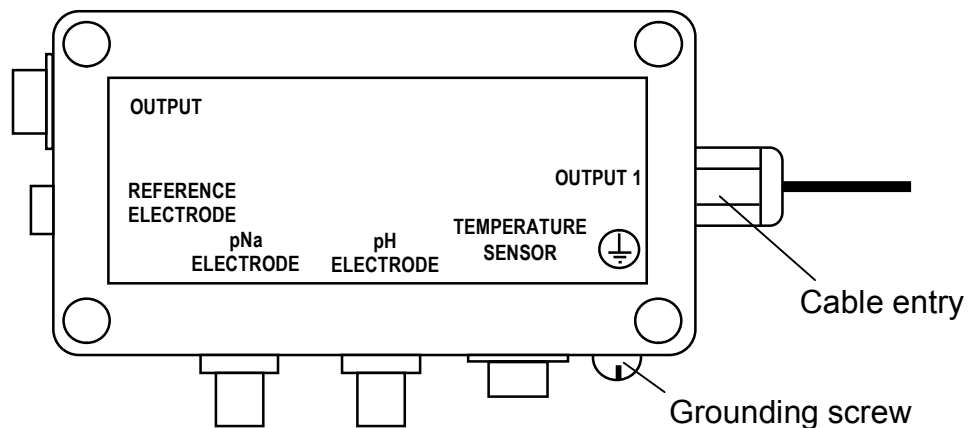

Fig. 1.5 – *AU-1002 amplifier unit connection points layout*
*AU-1002 amplifier unit* connections layout is shown in Fig. 1.5.